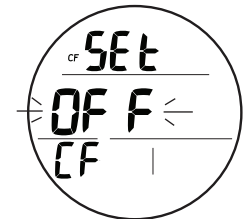

Fig. 64 - SET CF
**Set CF (Conservative Factor, NORM)**, information includes (Fig. 64):